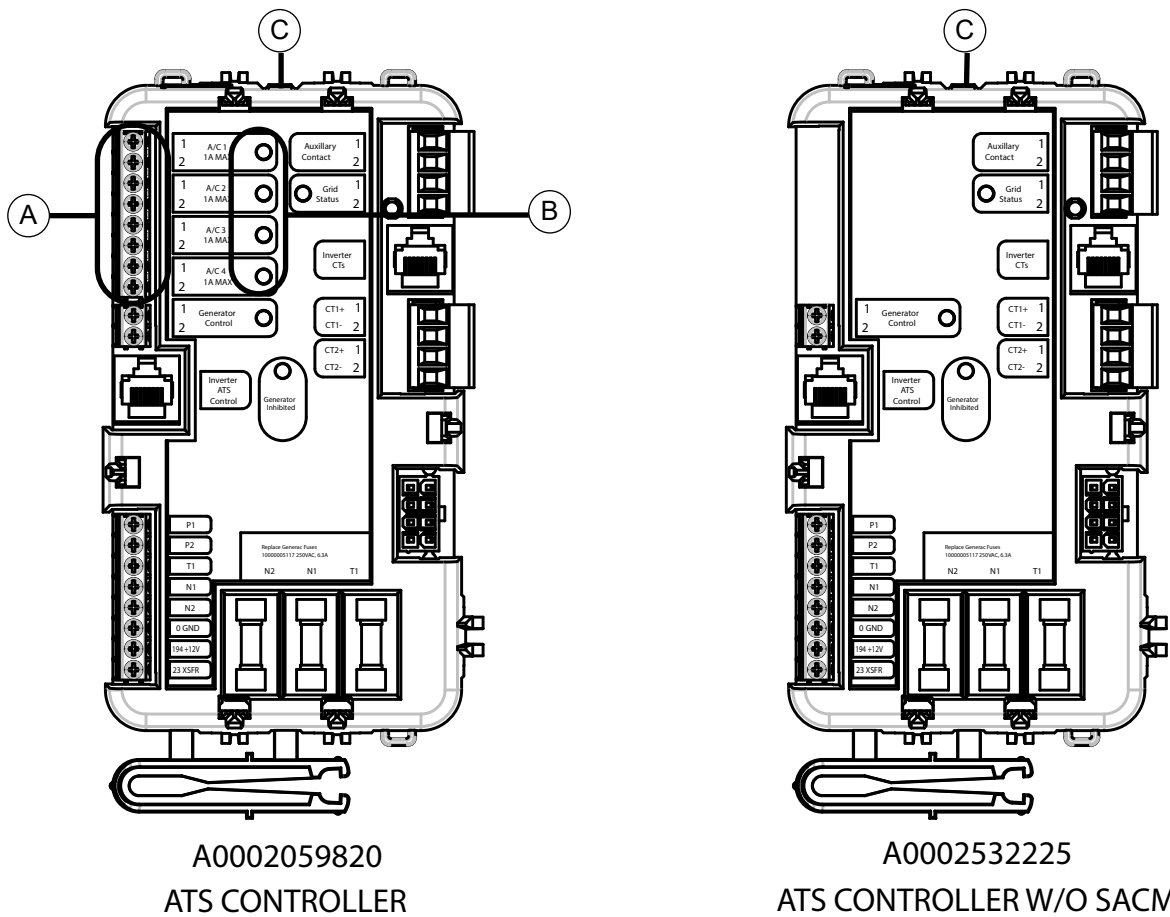

Figure 2-2. PWRcell ATS Controller Versions
See **Figure 2-2**. A/C Priorities 1 – 4 (A) have connections for an air conditioner. To control an air conditioner, no additional equipment is required. Internal normally closed relays interrupt the 24 VAC thermostat control signal to disable the air conditioner load.
See **Figure 2-2**. The controller has a test button (C) used to simulate an overload condition. This button operates even when the transfer signal is inactive.
See Figure 2-2. All PWRcell ATS models will include a standard version of the PWRcell ATS controller (Part #: A0002059820; Pictured left) suitable for standard PWRcell configurations, including the Flexible Coverage Generator Integration configuration. However, this controller is not suitable for use with the Whole Home Generator Integration configuration.